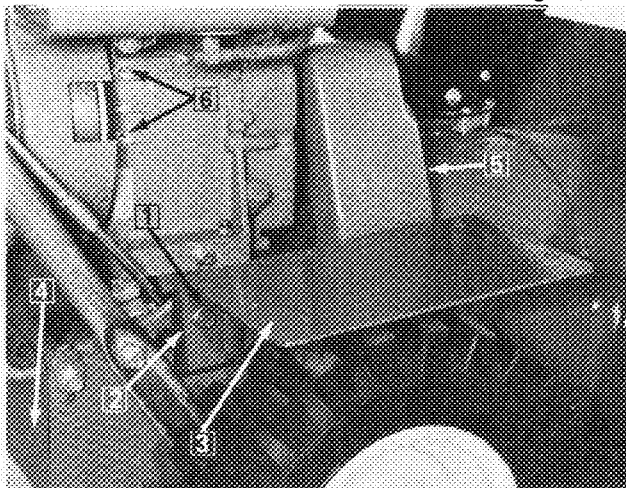

Figure 4
4. Secure battery isolator pad and battery mounting plate to side plate and engine base using capscrews and locknuts removed in step 3. (Fig. 4).
6. Remove two self tapping screws securing pinion cover (screws to be used later in assembly) and remove cover (Fig. 4).